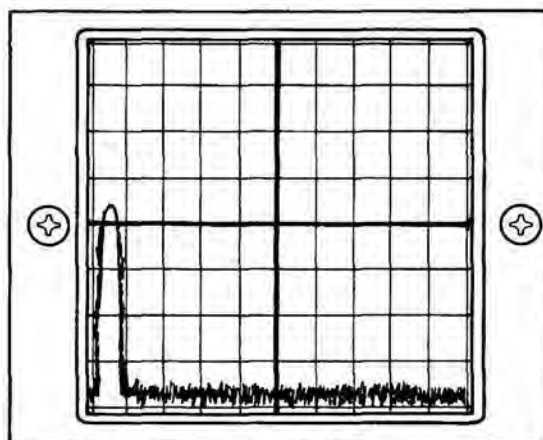

Figure 3-38 Narrow Dispersion Spectrum Display 5 Graticule Divisions Left Of Major Vertical Axis
18. Set RF FREQUENCY MHz Thumbwheels (34) to "1255000" and verify Signal Generator spectrum displayed on CRT Display (36) is 5 graticule divisions to left of the major vertical axis (± 4 minor graticule divisions). (See Figure 3-38.)